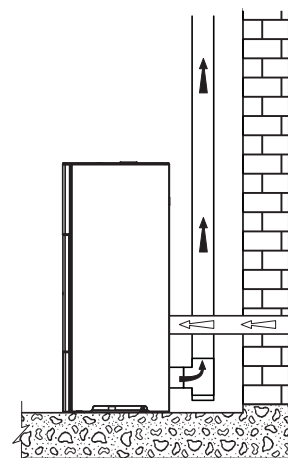

fig. 5.6
- connect the stove combustion air intake to the fresh air opening using a special pipe (Fig. 5.6).